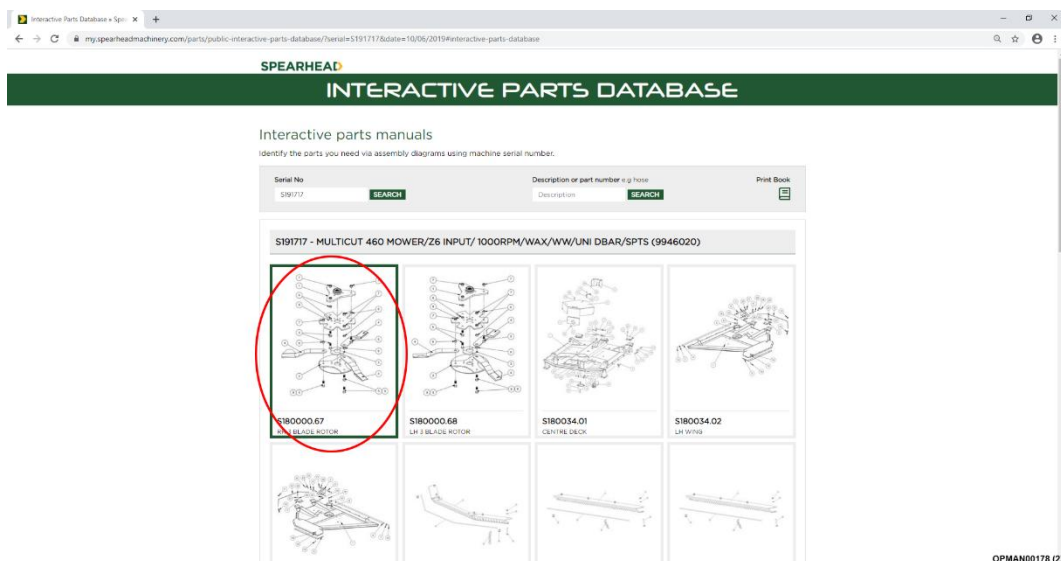

Figure 20 – Click On Assembly
7.1.1.3 After clicking on the serial number a full parts breakdown, specific to the machine serial number will appear showing the various parts and assemblies of the machine. Click on the specific assembly picture required; see Figure 20.